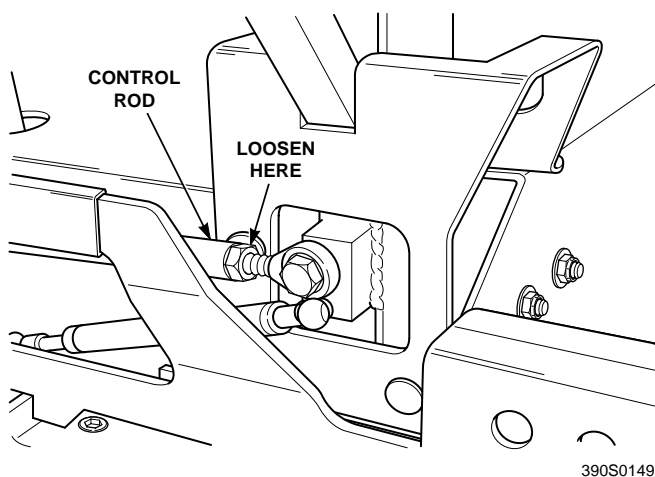

Figure 6-3. RH Steering Control Rod Adjustment
4. Adjust the RH wheel by loosening the jam nuts on the steering control rod and turning the rod until the drive wheel turns in the forward direction. Turn the rod back until the drive wheel stops moving. Turn the rod an additional 1/2 turn. (See Figure 6-3).
- A. Stop the machine and place the steering control levers in the neutral position. Loosen the lock nuts securing the ball joints at each end of the RH steering control rod. Rotate the control rod to lengthen the rod and tighten the lock nuts. This will cause the control rod to stroke the RH pump less, slowing down the RH wheel. (See Figure 6-3)